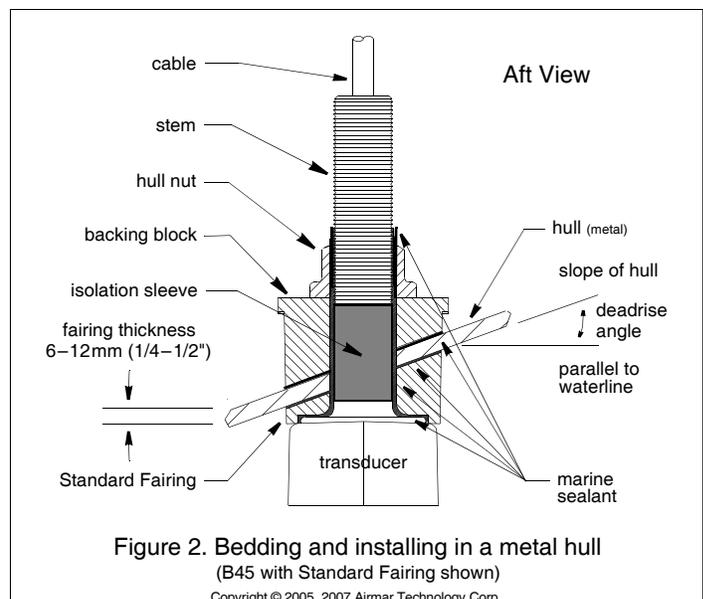

Figure 2. Bedding and installing in a metal hull (B45 with Standard Fairing shown)
1. Drill a 3mm or 1/8" pilot hole perpendicular to the waterline from inside the hull (see Figure 2). If there is a rib, strut or other hull irregularity near the selected mounting location, drill from the outside.
1. Measure the deadrise angle of the hull at the selected location using an angle finder or a digital level (see Figure 2)
4. Adjust the cutting fence, so the fairing will be cut in about two equal parts. *The section that will become the fairing must be between 6–12mm (1/4–1/2") at its thinnest dimension (see Figure 2).*
Stainless steel transducer/stem in a metal hull—Slide the isolation sleeve over the bedded transducer stem as far down as possible (see Figure 2). Apply a 2mm (1/16") thick layer of the marine sealant to the outside of the sleeving.
Stainless steel transducer in a metal hull—Be sure the isolation sleeve is between the transducer stem and the hull (see Figure 2). However, the top of the isolation sleeve must be below the top of the hull nut or the backing block to prevent the sleeving from interfering with tightening the hull nut.
2. From inside the hull, slide the backing block (if installing with a fairing) and hull nut onto the cable. Seat the backing block against the hull. Screw the hull nut in place and tighten it with slip-joint pliers (see Figure 2 or 5).